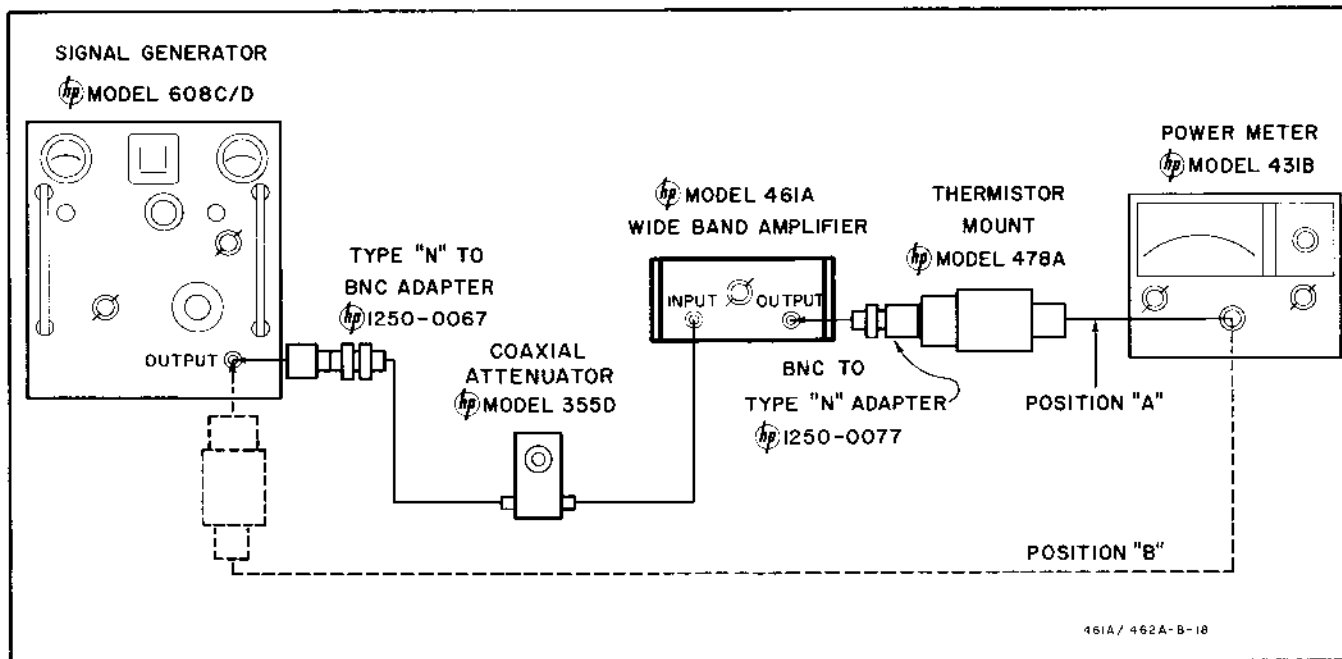
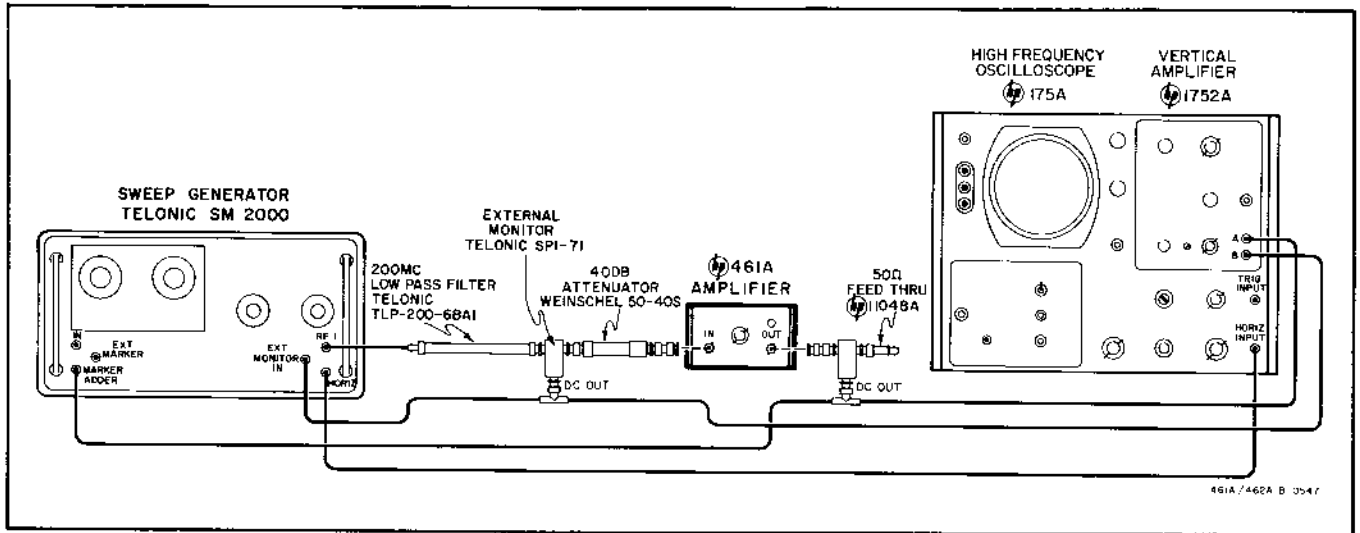

Figure 5-4. High Frequency Response Check Setup
Figure 5-8. Frequency Response Calibration Setup
Either Paragraph 5-13, steps a thru m (Figure 5-4), or Paragraph 5-22, steps a thru i (Figure 5-8), can be used for this check.
- a. Connect Model 461A as shown in Figure 5-4.
- c. Rotate Model 461A GAIN (DB) control to 40 db.
- e. Connect Power Meter to OUTPUT of Model 461A (position A in Figure 5-4).
b. Connect the Model 461A as shown in Figure 5-8. Keep the lead length as short as possible.